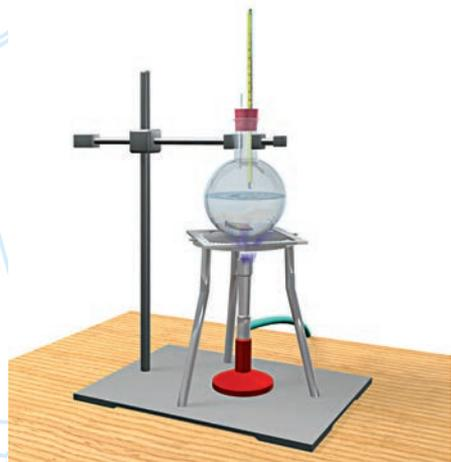

Fig. 8.1 : Determination of Boiling point of water
2. Take about 150 mL water in the round bottom flask and close its mouth with a two-holed stopper. Fix the thermometer through one of the holes in the cork and a glass tube through the other [Fig. 8.1]. Make sure that the bulb of thermometer hangs in air and is not in contact with water in the flask.